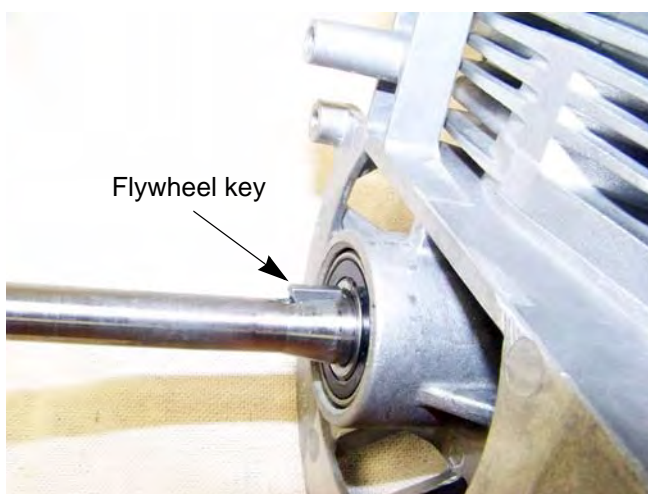

Figure 4.8
**NOTE:** Inspect the flywheel key and the crankshaft keyway. See Figure 4.8.